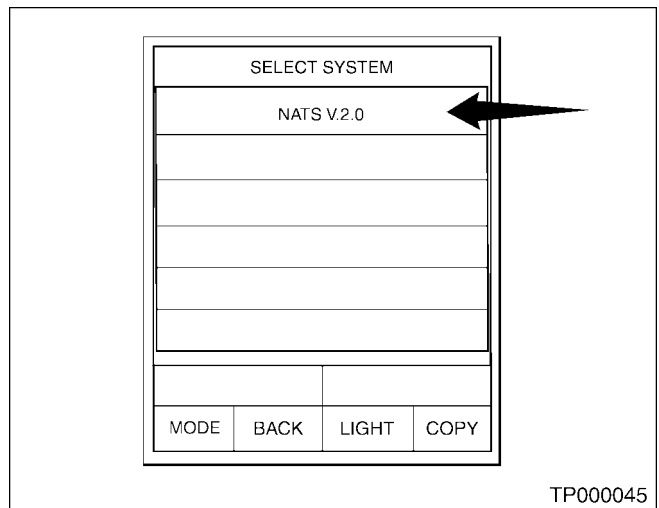

Figure 4
4. Select "NATS V2.0" (see Figure 4).